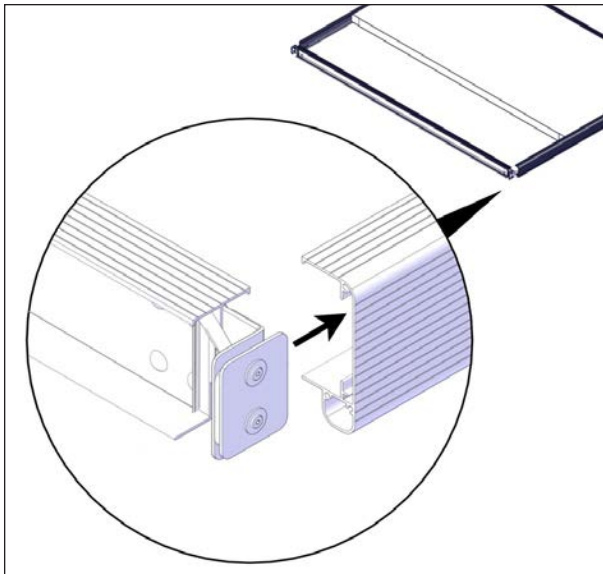

FIGURE 52: I-BEAM INSTALLATION
- Slide an I-beam with the short I to C connection plates in the C-channels with the bent portion pointing outwards see Figure 52.